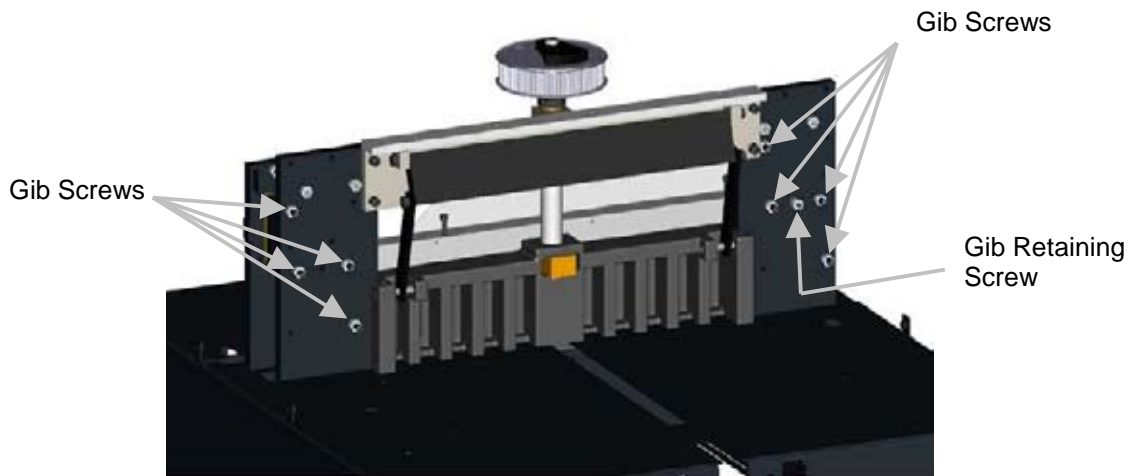

Figure 9
3. Loosen the gib screw jam nuts on all gib screws EXCEPT THE TOP SCREW on each side (Figure 9).